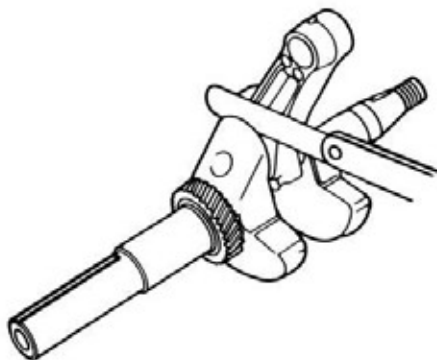

Figure 4-41: Connecting Rod Big End Side Clearance Measurement
2. See Figure 4-41. Place a piece of Plastigauge® on the crankshaft rod journal, assemble the connecting rod and tighten the bolts to 11~13 ft-lb (15~17 Nm).